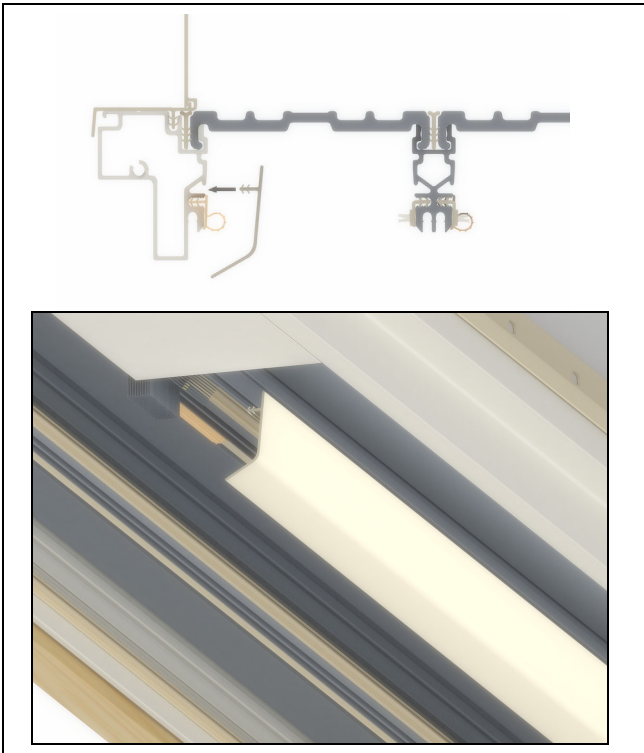

Figure 42
1. Install the weather strip guard by measuring the overall panel width and placing the four weather strip guards into the kerf above the head jamb weather strip the panel width apart. See figure 42.